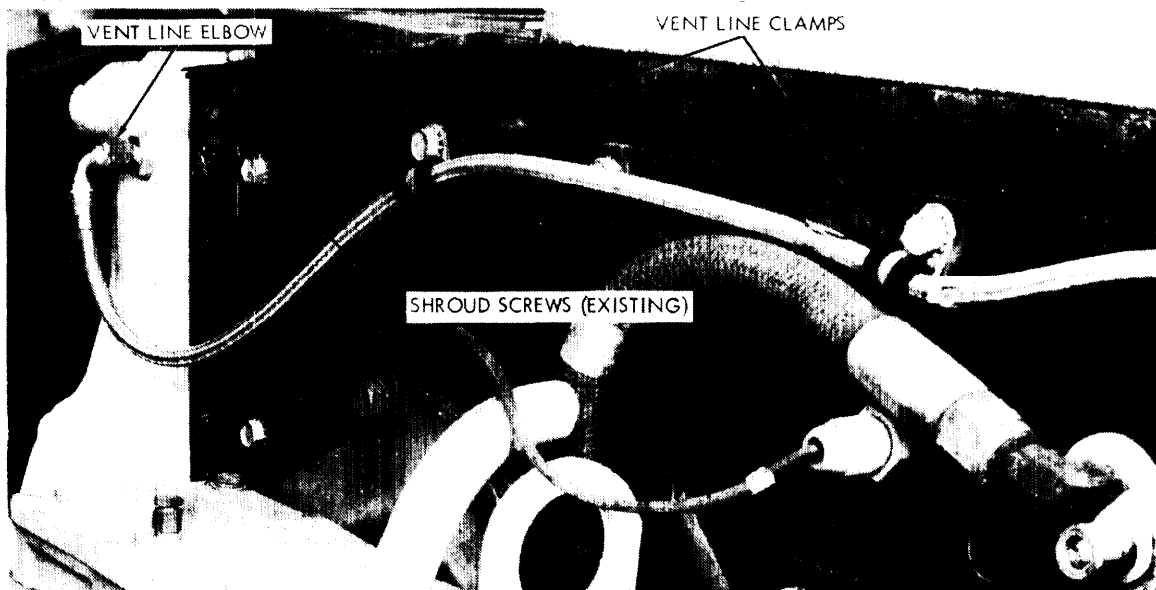

Figure 15. Oil Cooler Vent Line
- (3) Loosen oil cooler vent line elbow and bolts securing oil cooler vent line clamps (figure 15).
- (4) Remove and discard existing shroud screws (figure 15).